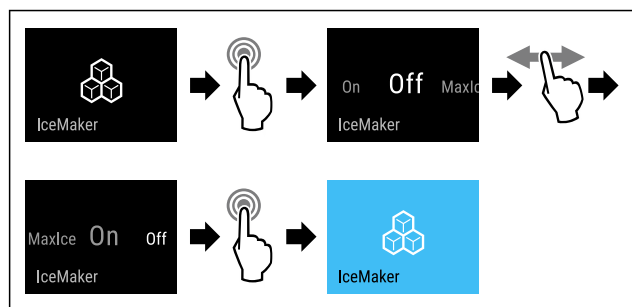

Fig. 16
- Complete the steps (see Fig. 16) .